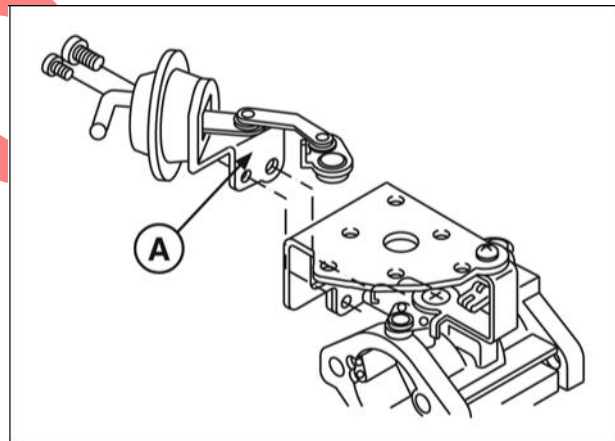

Figure 34
9. Remove two screws and vacuum choke break (**A**, Figure 34).